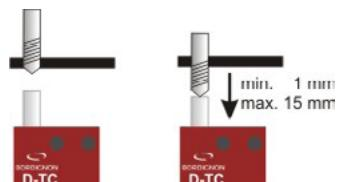

FIG. 2
This device is provided on demand to those who wish to obtain an added check of tapping success. The D-TC sensor is activated by the tap during the final descent phase, as illustrated in FIG. 2. When the cylinder in the device descends by 1 mm, the sensor sends an impulse to the control panel, which detects the success of the tapping operation.
1. Position the sensor beneath the piece to be tapped and aligned with the tap. The distance from the piece must allow the tap to push the D-TC cylinder by 1 to 15 millimeters at the end of the descent (FIG. 2)